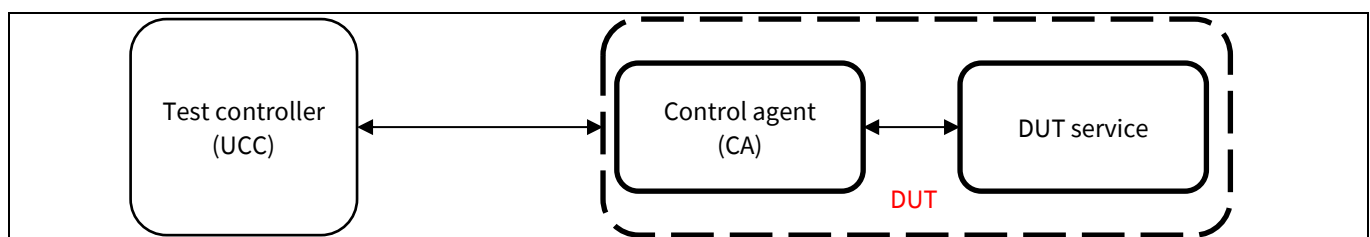

Figure 2 UCC-DUT setup
1.2 Control agent (CA)
A control agent (CA) is a proxy in which a CAPI control command is received for the device. As shown in Figure 2, you can run control agents inside the DUT, but some DUTs run these control agents outside of the DUT. The control agent typically opens a passive TCP socket on a selected port and waits for the UCC to connect to it. The UCC is configured to perform an active TCP socket to the control agent. The control agent collects the necessary information from the DUT service and returns it to the UCC.